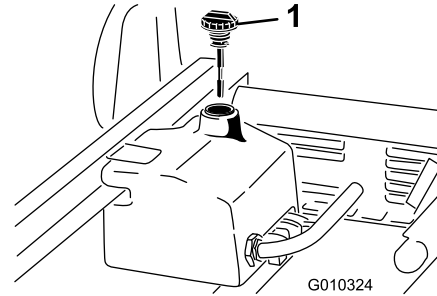

Figure 17
1. Clean the area around the filler neck and the cap of the hydraulic tank (Figure 17). Remove the cap from the filler neck.
2. Remove the dipstick (Figure 17) from the filler neck and wipe it with a clean rag. Insert the dipstick into the filler neck; then remove it and check the fluid level. The fluid level should be between the two marks on the dipstick.